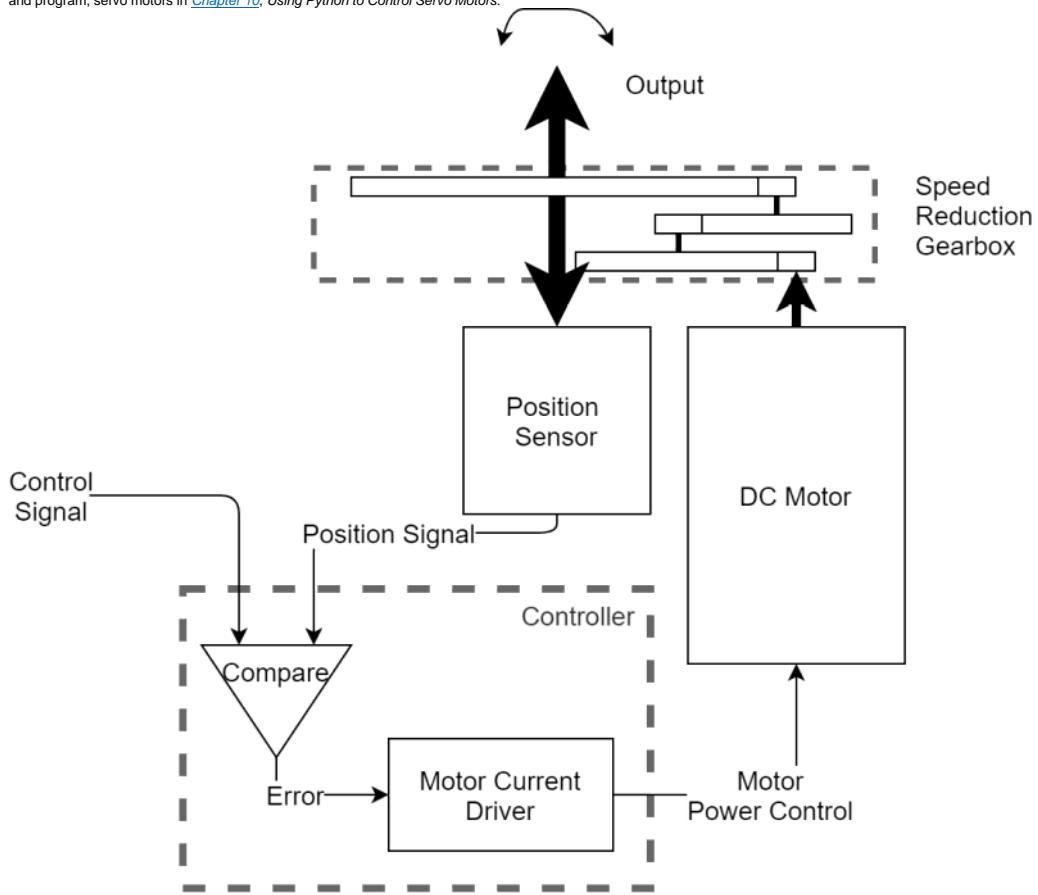

Figure 2.5 – Pictorial diagram of a servo motor mechanism
3. **Servo motor (or servomechanism):** This type of motor combines a gear motor with a sensor and a built-in controller as shown in *Figure 2.5*. A signal to a controller states a motor position, and the controller uses feedback from the sensor to try to reach this position. Servo motors are used in pan and tilt mechanisms, along with robot arms and limbs. We will look more closely at, and program, servo motors in Chapter 10, Using Python to Control Servo Motors: